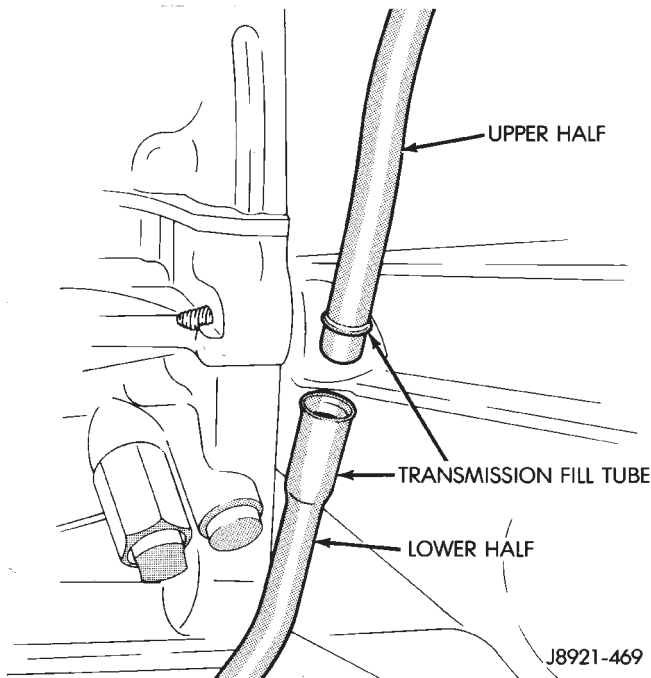

Fig. 50 Two-Piece Transmission Fill Tube
- (1) Raise vehicle.
- (2) Drain transmission fluid and reinstall oil pan drain plug.
- (3) Remove upper half of transmission fill tube (Fig. 50).